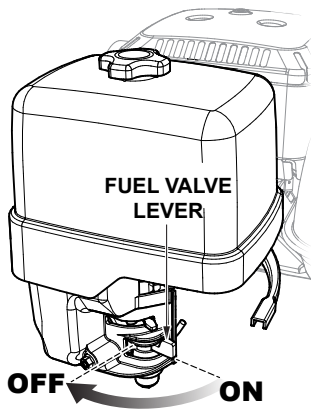

Figure 30. Fuel Valve Lever (OFF)
- Place the fuel valve lever (Figure 30) in the **OFF** position.